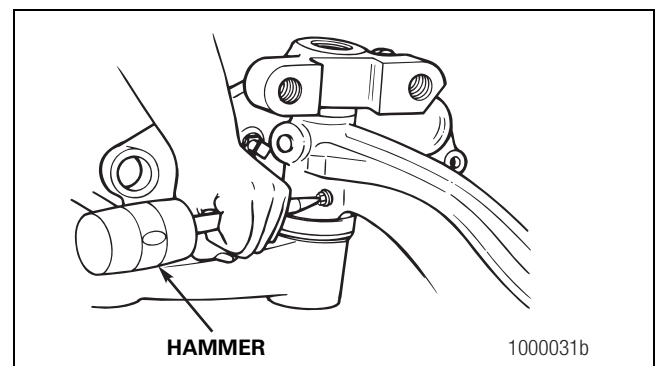

Figure 4.21
- A. Loosen the draw key nut. Use a brass drift and a hammer to hit the end of the draw key. Figure 4.21.